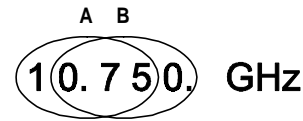

Figure 10. Local Oscillator frequency low and high-resolution display
**Local Oscillator frequency:** (see Figure 10) For example; if a current Local Oscillator frequency is 10.750 GHz, changing to Alt-2 Mode (ALT LED is on) and then pressing 2 displays the four most significant digits on the front panel (i.e., 10.75). At low resolution (A), pressing the up  $\uparrow$  or down  $\downarrow$  arrow button advances the frequency up or down in 10 MHz steps (i.e., 10.76, 10.77, and so on). Pressing and holding down the up  $\uparrow$  or down  $\downarrow$  arrow button will increase the step size further.
**Crossover frequency:** Because the Crossover and LO frequency ranges are similar, refer to the above example for changing the Crossover frequency using the high and low resolution front panel display (see Figure 10).